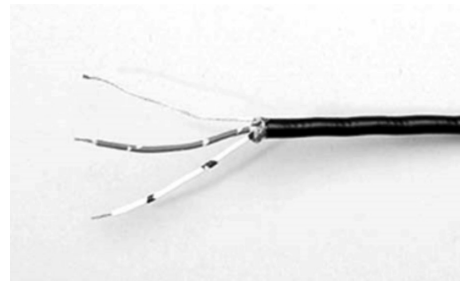

Figure 3.5 - Stripping conductors
3. Cut away the braided shield and the foil shield. Strip the insulation from the conductors approximately 0.4 inch (1 cm) as shown in **Figure 3.5**.